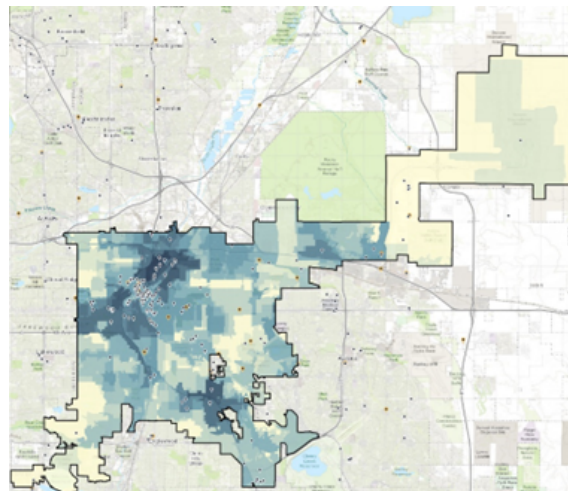

Figure 1: Denver Carshare Suitability Analysis Map
- Through Xcel Energy Partners in Energy, Denver developed a carshare suitability analysis to identify where carshare would be most appropriate based on land use, demographics, and other characteristics (see Figure 1).